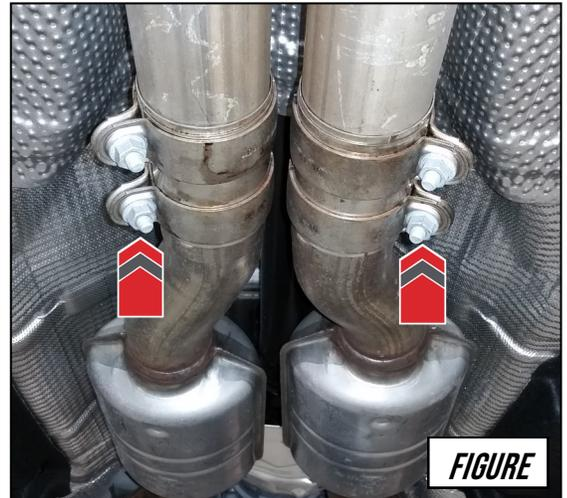

FIGURE 4
Starting from the rear of the car, support the OEM rear mufflers and loosen the four (4) 13mm bolts that secure the sleeve clamps into place, as shown by the arrows in **Figure 4**.